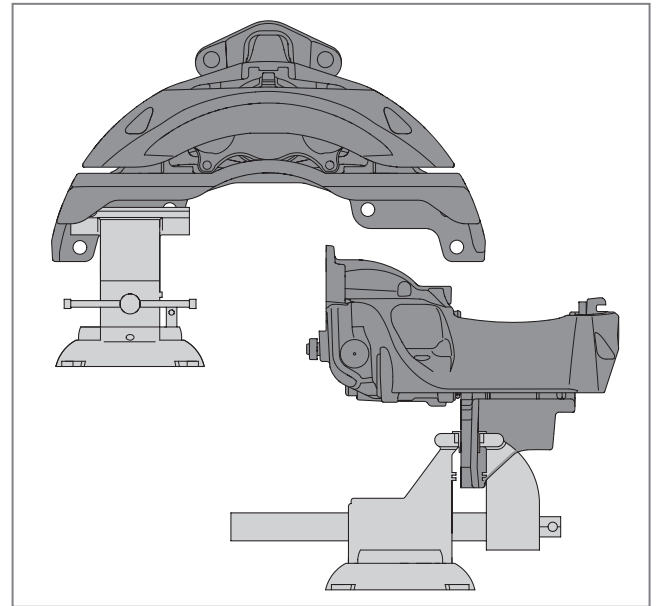

Fig. 48 - Clamping device for replacing the adjustment screw bellows
- Fasten the disc brake securely in a vice with soft jaws, see ► Fig. 48. Ensure that the jaws of the vice do not damage the disc brake.